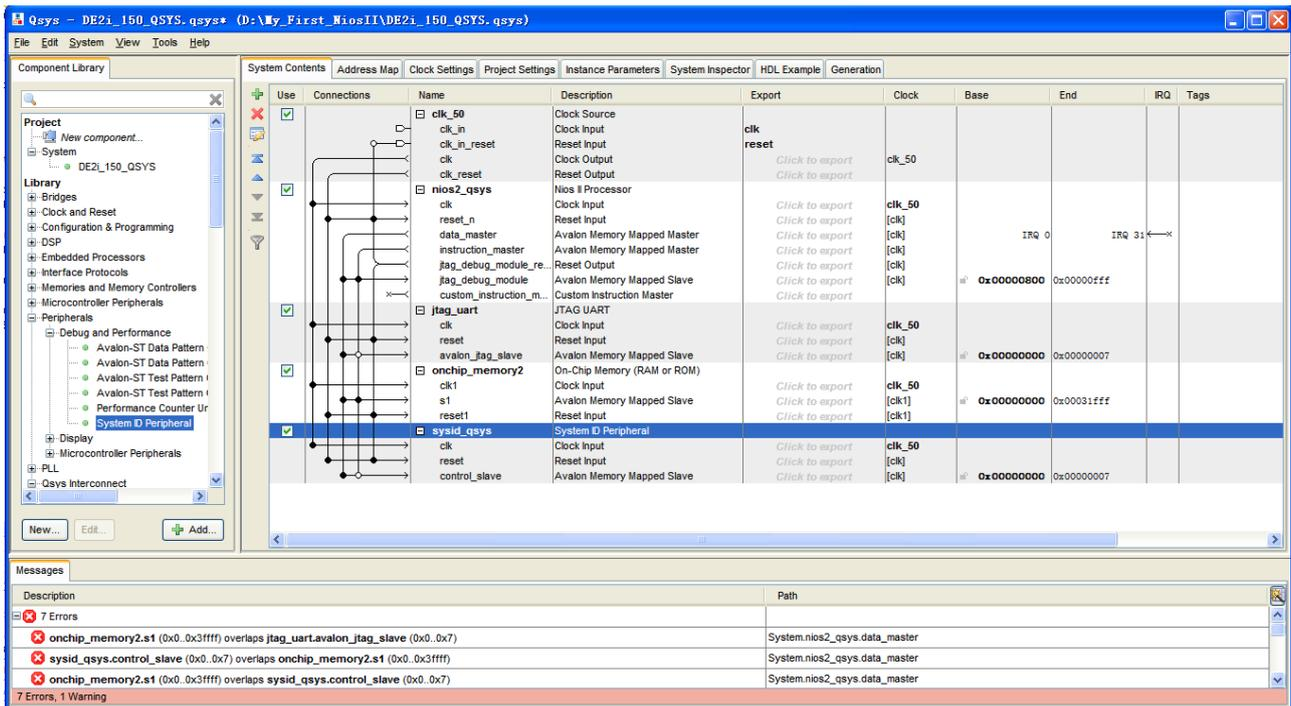

Figure 1-36 Add System ID [2]
22. Click **Finish** to close System ID Peripheral box and return to the window, rename **sysid_qsys_0** to **sysid_qsys** and connect the **clk** and **clk_reset** and **data_master** as shown in Figure 1-36.